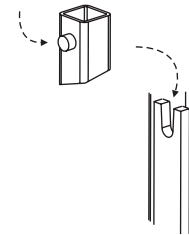

Figure 4-16
11. Attach platform by placing platform's upright pins into u-shaped bracket on tower. **See Figure 4-16.**